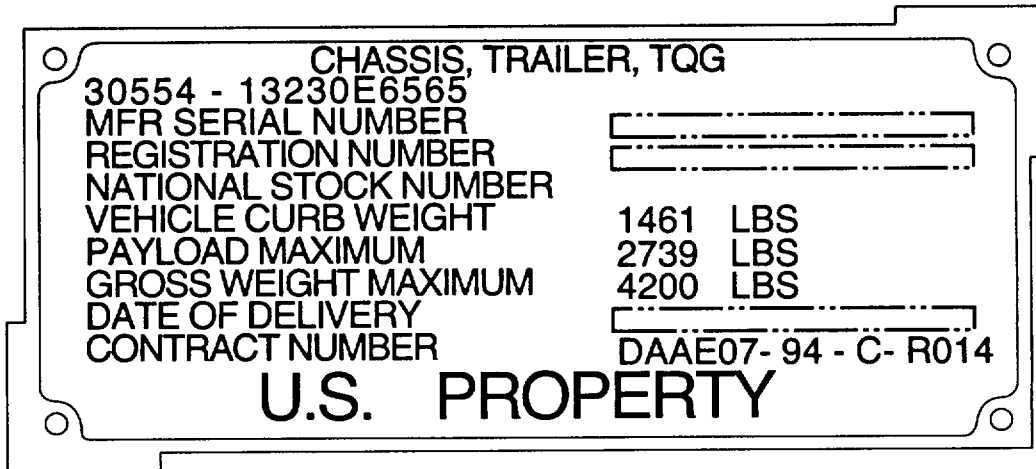

Figure 2-13.3. AN/MJQ-35A and PU-797A Trailer Chassis Identification Plate.
**2-6.6 AN/MJQ-35A and PU-797A Trailer Chassis Identification Plate.** Refer to figure 2-13.3. This plate is located on curbside tow bar.